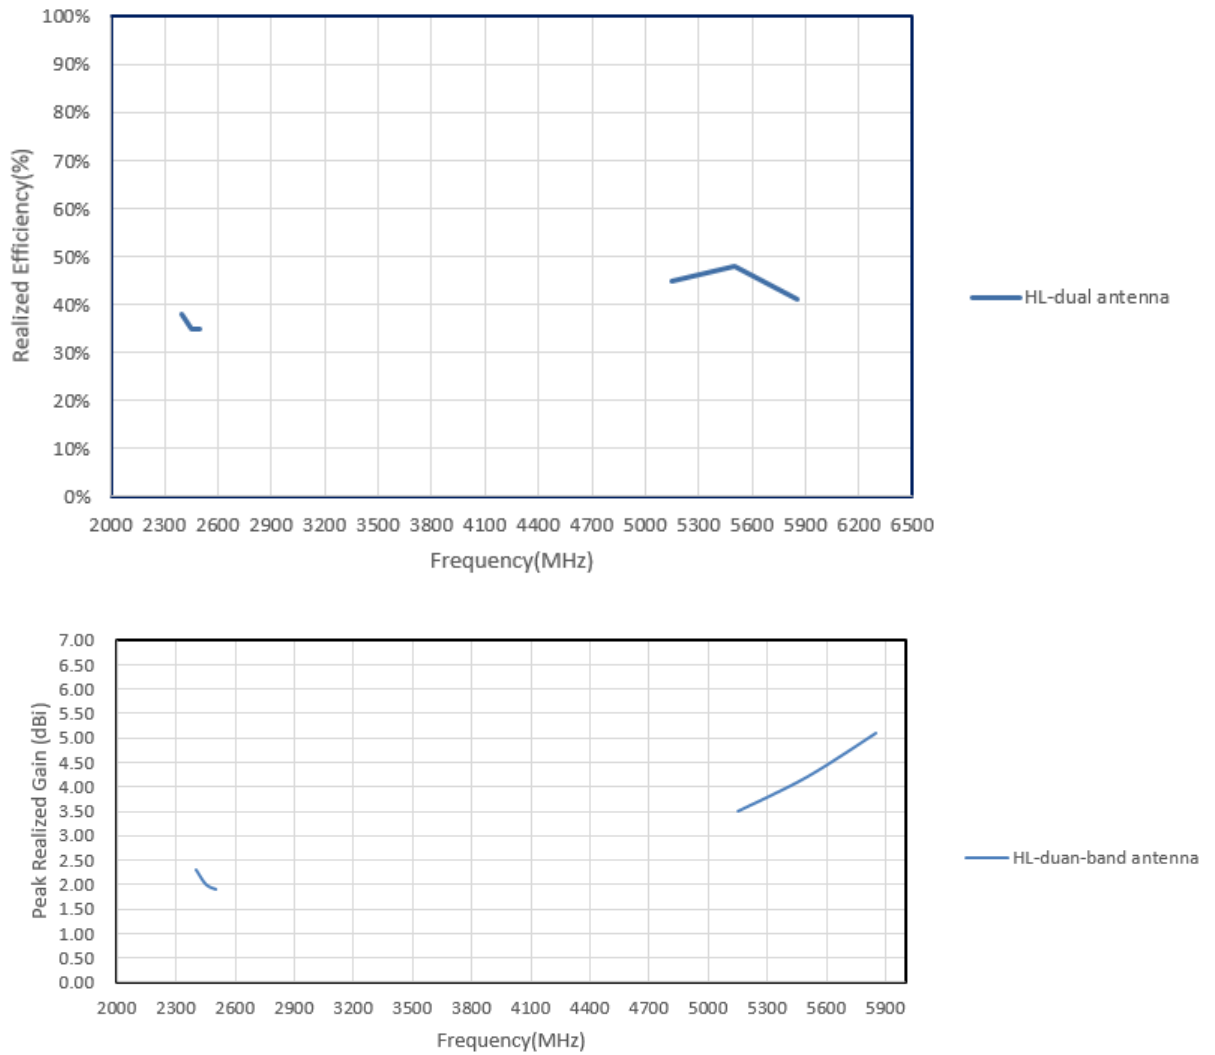

Figure 7. Measured peak realized gain over frequency.
- Figure 7.Measured peak realized gain over frequency.11